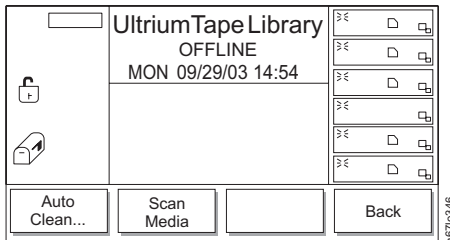

Figure 4-90. More Submenu
2. Press the button below the **Scan Media** softkey (see Figure 4-90).